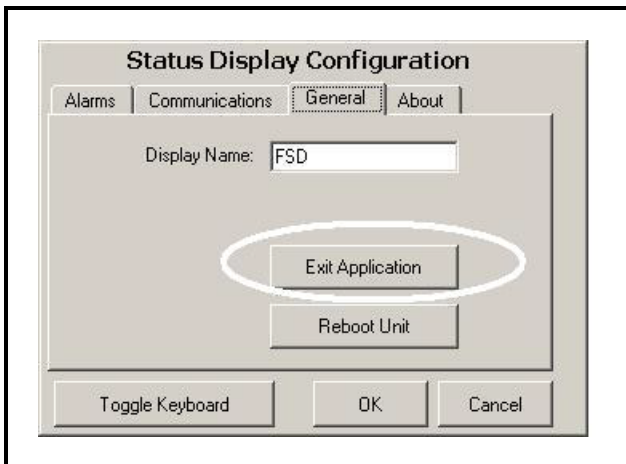

Figure 5-17 - General FSD Information Screen
2. Select the General tab and touch the **Exit Application** button (*Figure 5-17*).